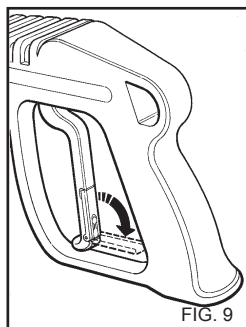

FIG. 9
⚠ When the water cleaner is not used, close the safety device on the handle (fig. 9).
1) For environmental compatibility, we recommend a reasonable use of detergents (fig.9), according to the instructions on the pack.